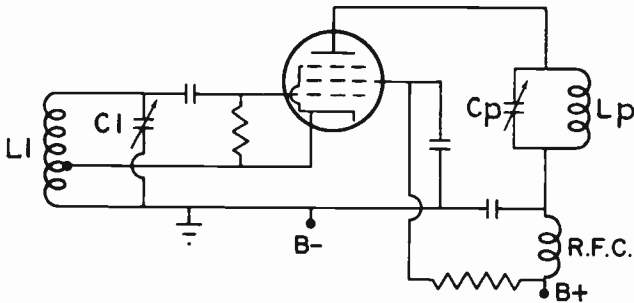

FIG. 12-12. AN ELECTRON-COUPLED OSCILLATOR.
**THE ELECTRON-COUPLED OSCILLATOR.** Fig. 12-12 is a diagram of a series-fed ELECTRON-COUPLED OSCILLATOR (E.C.O.). Both tank circuits are tuned to the same frequency. Examination of the diagram shows that the cathode, control grid and screen grid circuits form a Hartley oscillator; the screen grid acts as the plate of the oscillator. The real plate circuit serves only to couple energy from the oscillator to the load.